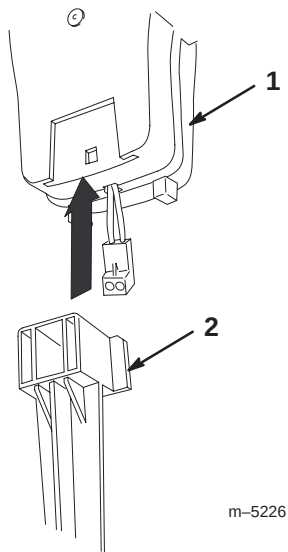

Figure 8
2. Screw (3)
- Mount the switch onto a perimeter mounting stake that you can move from plot to plot (Fig. 8).